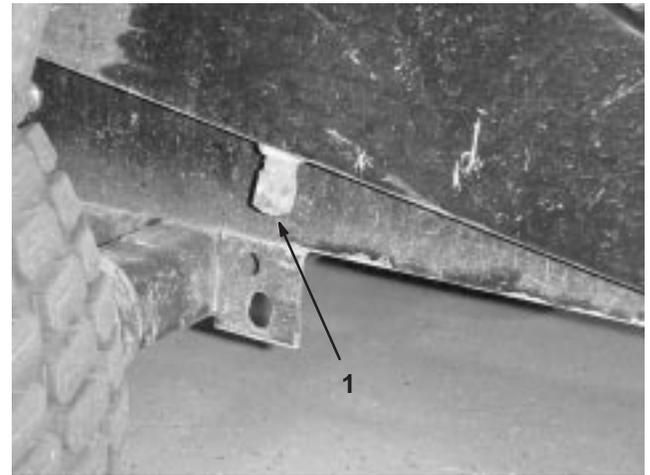

Figure 22
3. Place a pan under the drain hose and remove plug (Fig. 22).